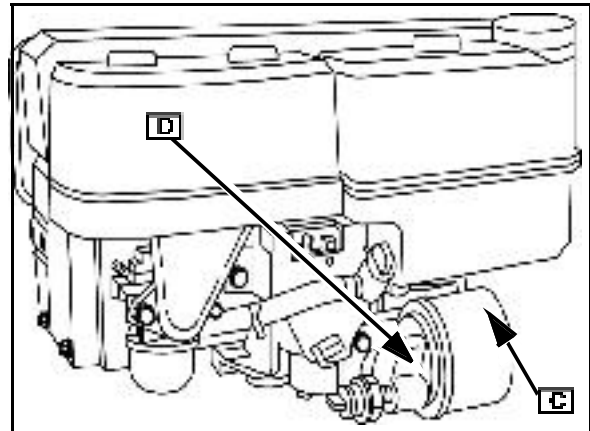

Fig. 3
4. Remove oil filter ([C] Fig. 3), if equipped.
- Clean surface of filter mounting adaptor ([D] Fig. 3).